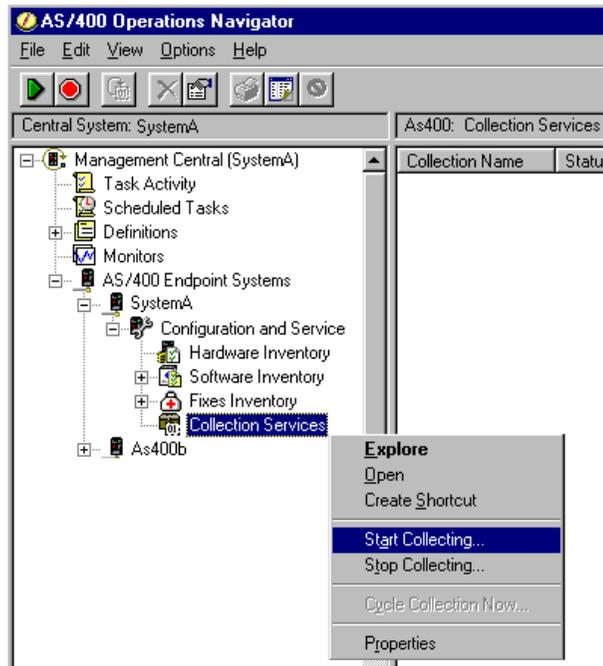

Figure 52. Start Collecting Performance Data on an Endpoint System
5. Right-click **Collection Services** and select **Start Collecting** (Figure 52 on page 114).